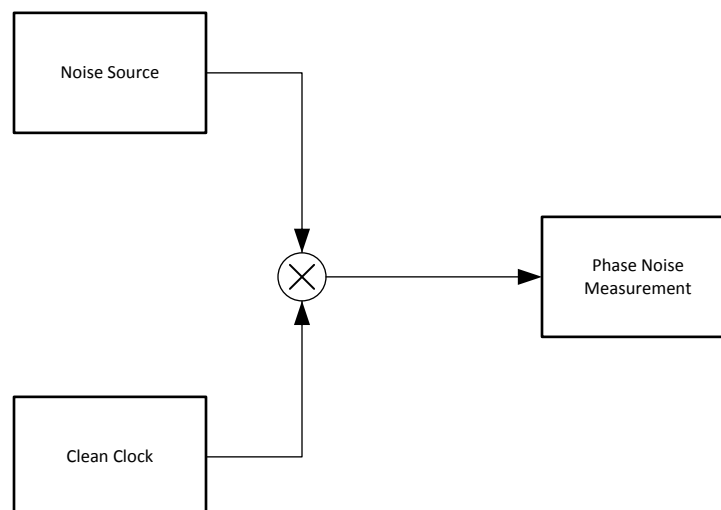

Figure 1. Clock Jitter Measurement Setup
Figure 1 shows the Jitter measurement setup.
- Connect the clock to the Phase Noise measurement setup as shown in Figure 1 and measure RMS jitter with Averaging turned on.